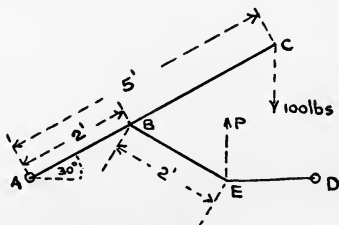

Fig. 2.
2. ABC is a continuous rod (see Fig. 2) hinged at A . ED is another lever hinged to a fixed point D . The points B and E are connected by a link. A vertical force of 100 lbs. is applied at C , and the lever ED is maintained in a horizontal position by a vertical force P .